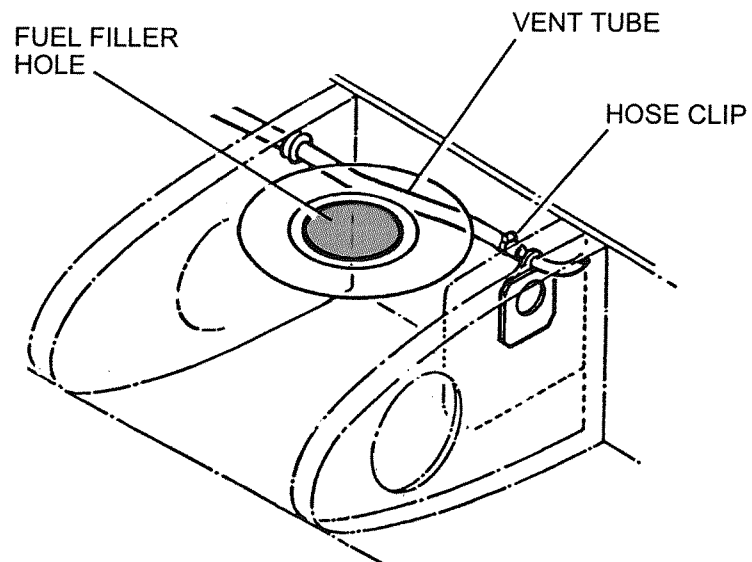

FIG. 1 WING TANK FUEL VENT PIPE
2. Using a mirror and a torch (if required) observe fuel vent tube, ref Fig 1.